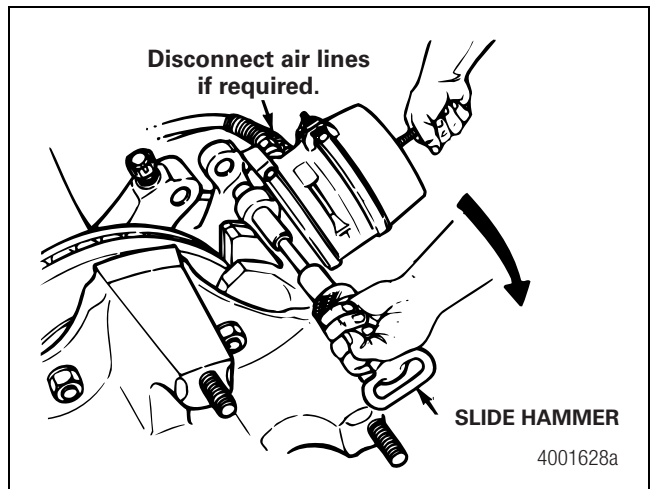

Figure 10.9
- E. Hold the air chamber and lower the caliper. Figure 10.9.